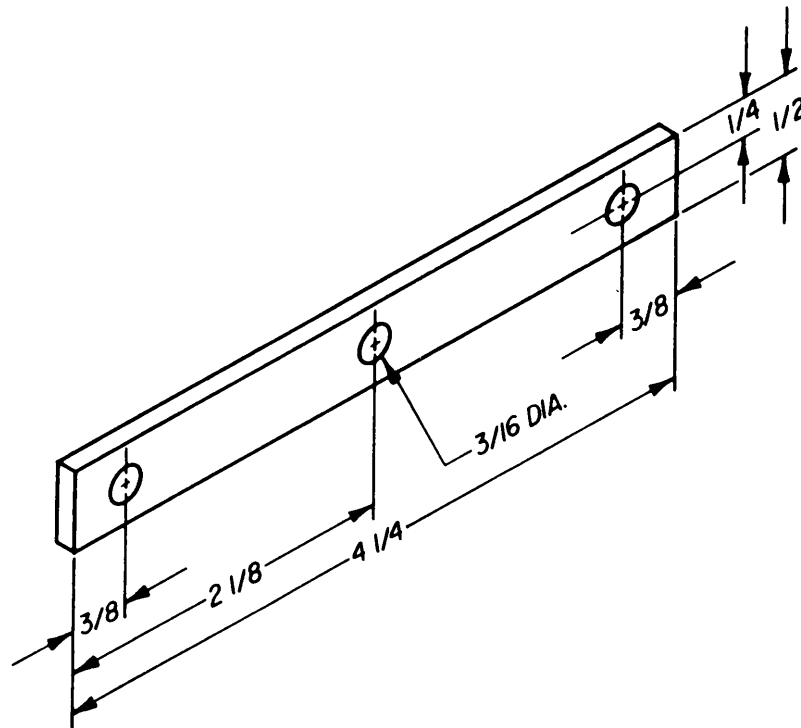

Figure E-7. Rubber Spacer (MIL-R-6855)
2. Fabricate the rubber spacer with dimensions shown in figure E-7.